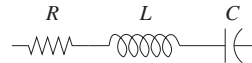

Figure P2.23 Resistor, inductor, and capacitor in series.
- 2-23.** Consider a resistor R , an inductor L , and a capacitor C connected in series as shown in Fig. P2.23. The magnitude of the total impedance Z is given by $Z =$